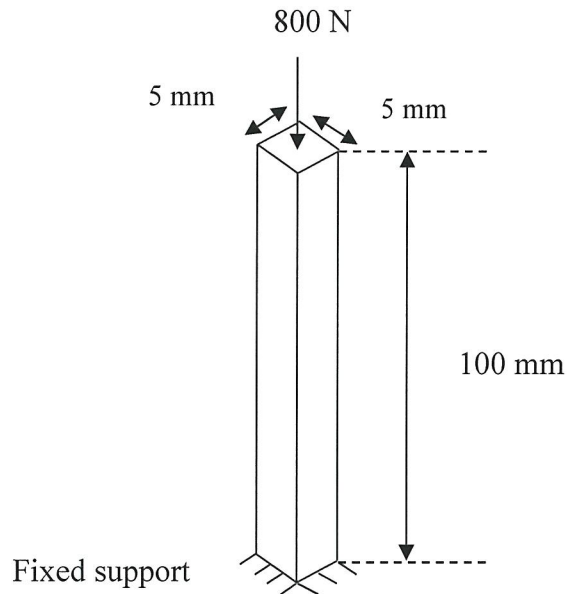

FIGURE Q3(b)
- (b) A column fabricated from aluminum is as shown in **FIGURE Q3(b)**. It is loaded with axial load of 800 N at a centroid of its cross section. Check the safety of the column if safety factor is 2.